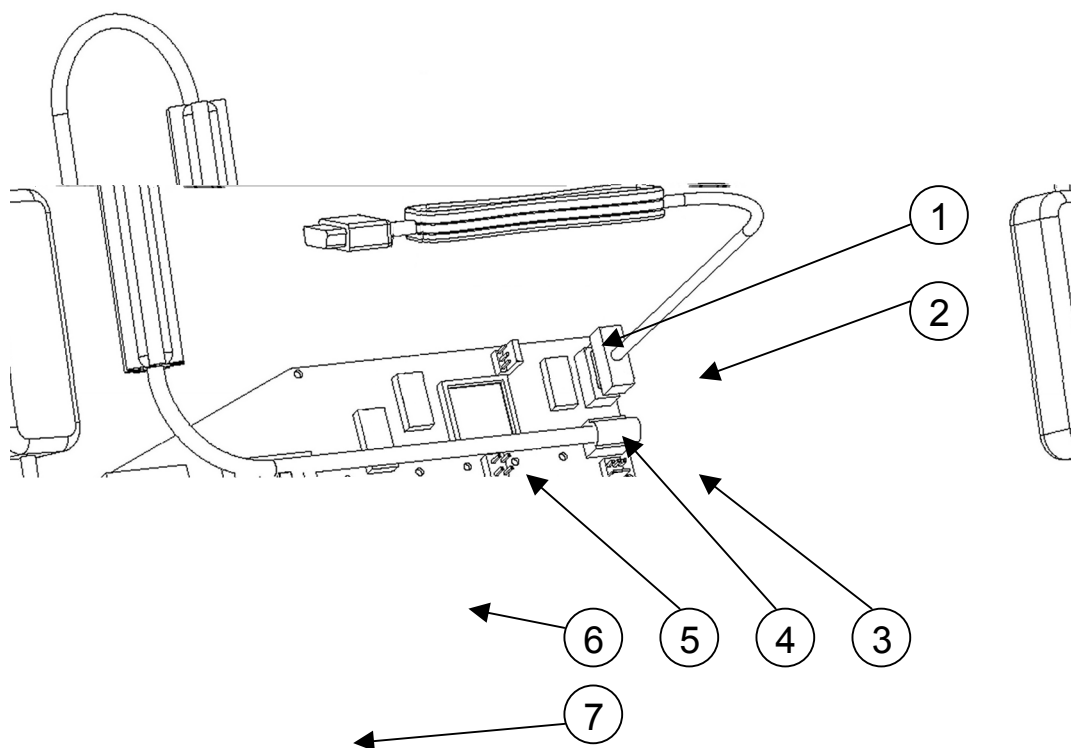

Figure 15 Board Connections
Refer to Figure 15 on page 34 for a detailed board connections illustration.
2. Disconnect the sonde cable (see Figure 15 on page 34 for details) by opening the connector clip hinges of the connector clip located on the left.
5. Connect the new cable to the connector clip on the left. The cable is marked **Sonde cable** in Figure 15 on page 34.
Figure 15 below provides a detailed illustration of the board connections inside the GC25 unit.
The following numbers refer to Figure 15 above: